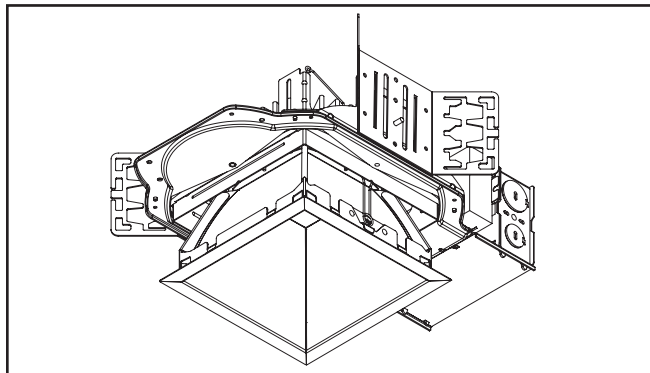

Figure 9
10. Install the LED engine and trim assembly by inserting the torsion springs into the spring receivers located inside the housing (Figure 9.).
1. Remove trim assembly from the housing (Figure 9.).